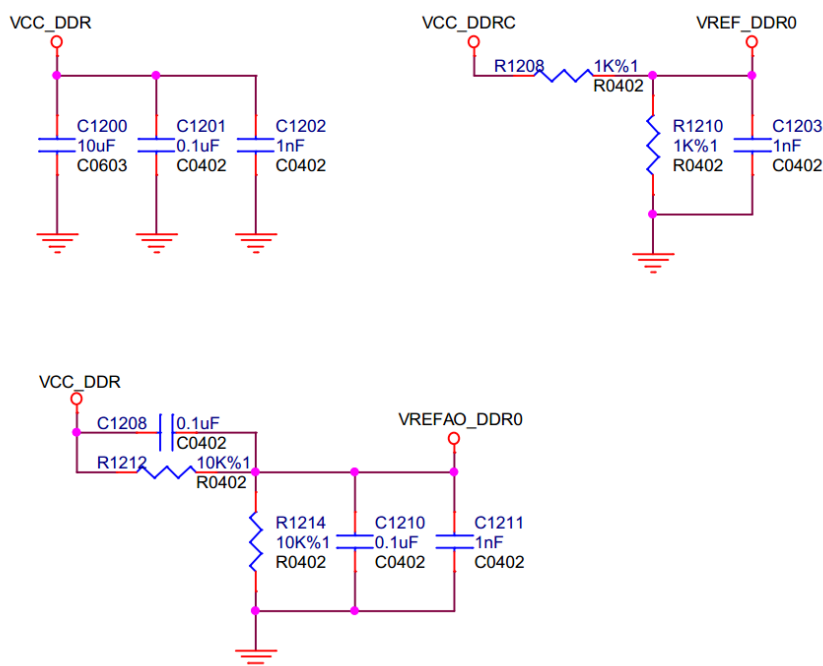

Figure 8-5
- Please ensure the reference power divider resistance to use the resistance of 1% accuracy. VREF_DDR power supply is closable during hibernation, and the two divider resistances are 1K; While VREFAO_DDR power supply cannot be closed during hibernation, thus using 10K divider resistance to reduce power dissipation, and to make sure the following features of battery. The resistance should be connected respectively 0.1uF capacitor in parallel, shown as capacitors C1208 and C1210 in Figure 8-5.